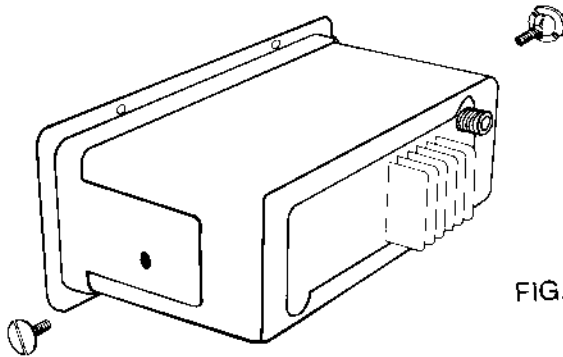

FIG. 3.
3. Insert the two brass flat head screws into the mounting holes in the side plates and tighten firmly. DO NOT OVERTIGHTEN. (Fig. 3)